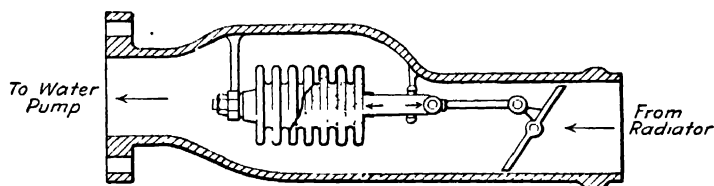

FIG. 172.—Thermostat for Regulating Temperature of Cooling Water.
Thermostatic Controls.—Thermostatic controls for the purpose of increasing the thermal efficiency, and, indirectly, of keeping down carbon deposits (Fig. 172), have been fitted to the water-circulating system in some engines. These thermostats block the free circulation of the water from the cylinder cooling jackets until the temperature of the cylinder walls and valve pockets has attained a predetermined value. With this arrangement it is claimed, (1) that the explosion chamber and cylinder walls can be maintained at a temperature sufficiently high to burn efficiently the fuel within, (2) that any reasonable oil surplus arriving above the piston heads will be flashed off, leaving practically no carbon deposit behind.